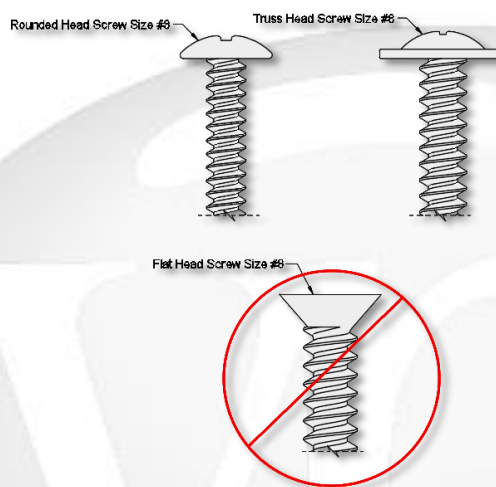

Figure 4: Approved Screw Heads – Strap Anchors, Fender Washers, & Nail Flange
a) A #8 pan head screw as shown below in *figure 4* must be used.